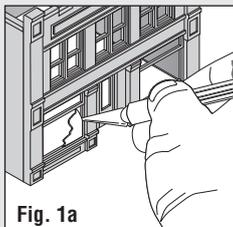

Fig. 1a
- Remove any mold flash from Building Shell ① using a hobby knife and sandpaper (Fig. 1a). Mold flash may need to be cleaned from placement holes.